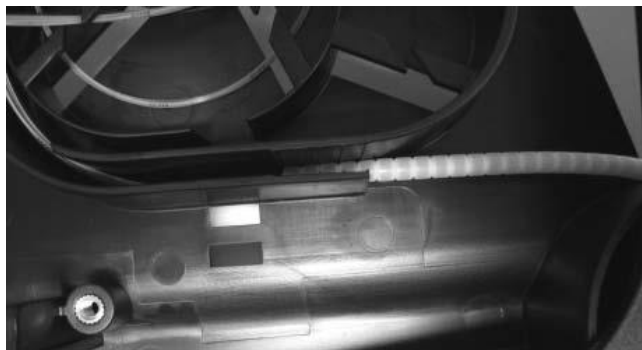

Fig.15
- l) Push bend limiting tubes into the grips of the splice management section (Fig.15)
- f) Push Bend Limiting Tube into the grips of the splice management section (see Loose Tube Section, step (l), Fig.15, page.6).